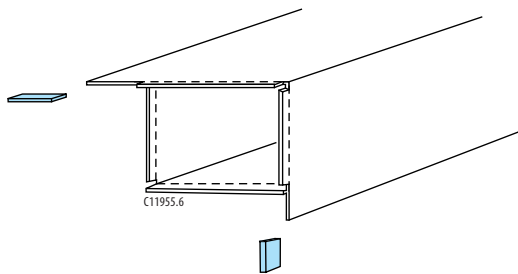

Figure 5-6:
5. Cut and remove approximately 5mm ($\frac{1}{4}$ inch) of the outboard and downward turned flanges of the lower rail. Cut a 5mm ($\frac{1}{4}$ inch) gap approximately 5mm ($\frac{1}{4}$ inch) along the corners of the lower rail to create tabs (figure 5-6).